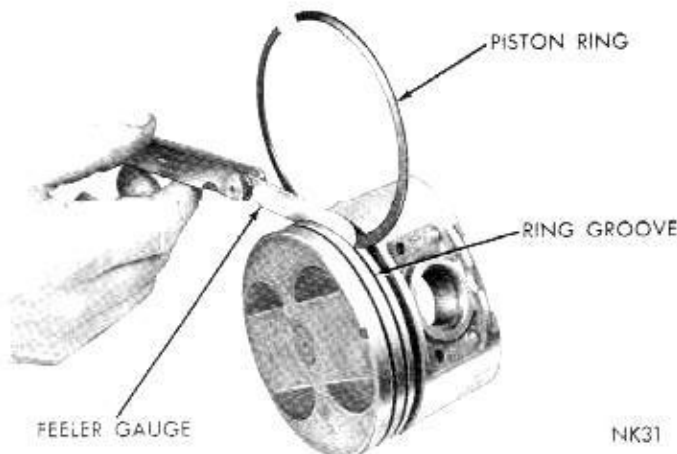

Fig. 36—Measuring Piston Ring Clearance
(1) Measure piston ring gap about two inches from bottom of cylinder bore in which it is to be fitted (An inverted piston can be used to push the rings down to insure positioning rings squarely in the cylinder wall before measuring).
(2) Insert feeler stock in the gap. The ring gap should be between .010 to .020 inch for compression rings and .015 to .062 inch for oil ring steel rails in standard size bores (for new service rings). Maximum gap in .005 inch O/S bores should be .060 inch for compression rings and .070 inch for oil ring steel rails.
(3) Measure side clearance between piston ring and ring land (Fig. 36). Clearance should be .0015 to .003 inch for the top compression ring and the intermediate ring. Steel rail service oil ring should be free in groove, but should not exceed .005 inch side clearance.
(4) The keys on the spacer expander must be inserted into the hole in the oil ring groove over the piston pin front boss.
(5) Install compression rings in middle and top grooves use ring installer Tool C-3586 for 318 cubic inch engine. Be sure the mark "Top" on each compression ring is to the top of piston when ring is installed.